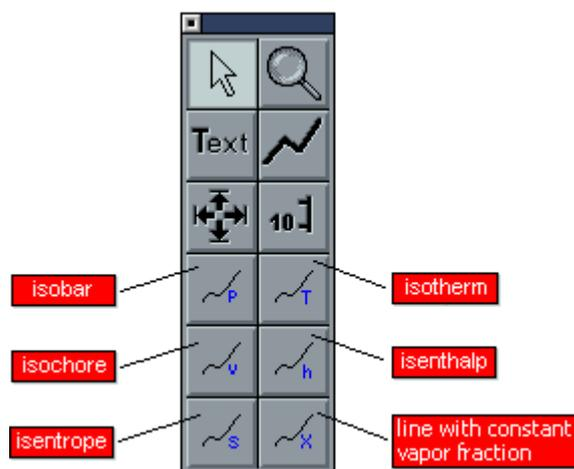

Figure 10-4: toolbox for Mollier and T, s diagrams
- Select the tool of the desired line in the toolbox for Mollier and T, s diagrams (see Figure 10-4).